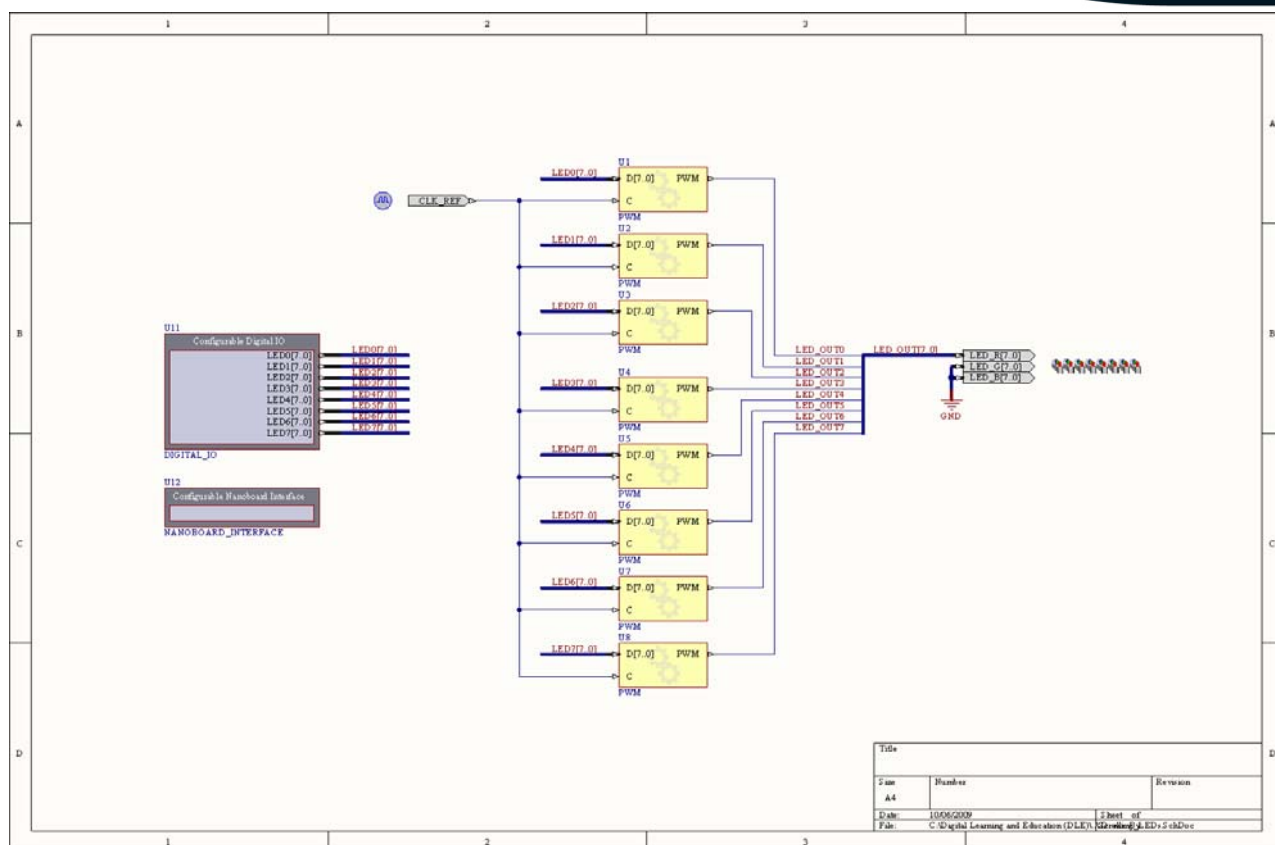

Figure 1. Schematic for the Scrolling\_LEDs design.
This exercise uses the components listed in Table 1, to create the circuit shown in Figure 1.
12. Place the CLOCK\_REF, DIGITAL\_IO and NANOBOARD\_INTERFACE components to the left of the PWM components, as shown in Figure 1. Their position is not critical, if needed they can be moved when you wire them up.
29. Now wire all of the PWM clock pins, labeled C, to the CLK\_REF port plugin component, as shown in Figure 1.